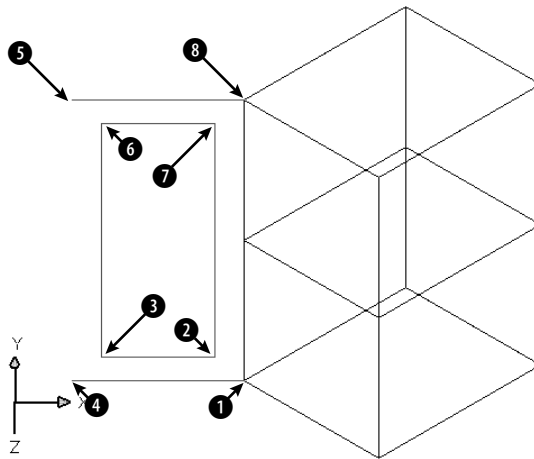

Figure 23-5: The partially completed cabinet.
Your drawing should look like Figure 23-5.
Specify first point or [Invisible]: *Pick the endpoint at ① in Figure 23-5.*